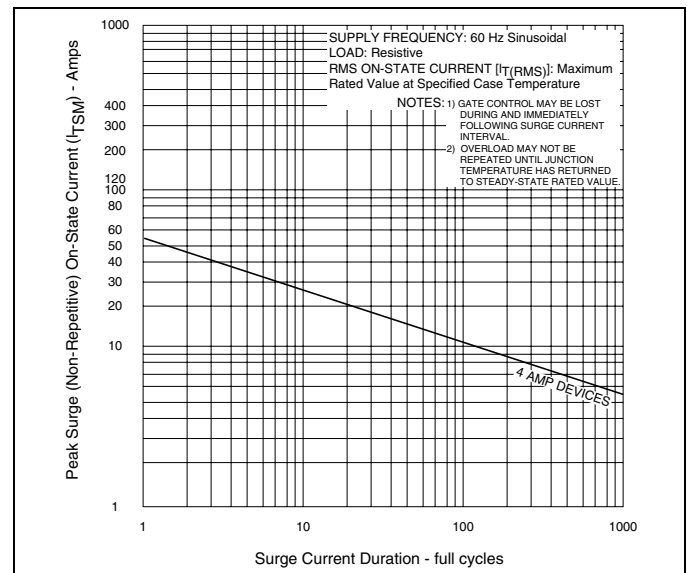

Figure 1.2 Peak Surge Current vs Surge Current Duration
- (1) For either polarity of MT2 with reference to MT1 terminal.
- (2) For either polarity of gate voltage V_{GT} with reference to MT1 terminal.
- (3) See definition of quadrants and gate characteristics.
- (4) See Figure 1.2 for surge rating and specific duration.